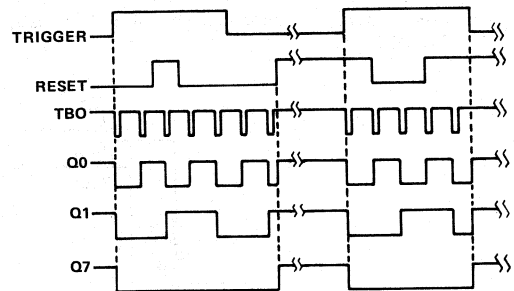

FIGURE 5. TIMING DIAGRAM OF
Figure 5 shows voltage waveforms for typical operation of the uA2240C. If both reset and trigger inputs are low during power-up, the timer/counter will be in a reset state with all binary (Q) outputs high and the oscillator stopped. In this state, a high level on the trigger input starts the time-base oscillator. The initial negative-going pulse from the oscillator sets the Q outputs to low logic levels at the beginning of the first time-base period. The uA2240C will ignore any further signals at the trigger input until after a reset signal is applied to the reset input. With the trigger input low, a high level at the reset input will set Q outputs high and stop the time-base oscillator. If the reset signal occurs while the trigger input is high, the reset is ignored. If the reset input remains high when the trigger input goes low, the uA2240C will reset.